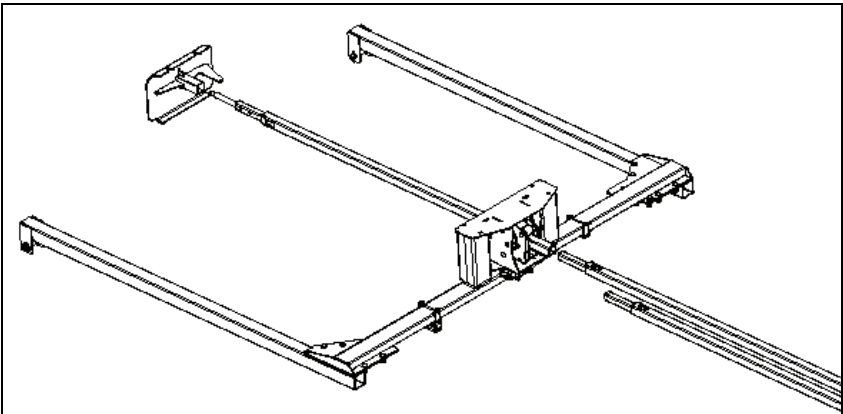

Figure 9.2 Unloading post
- 5- Take out the 2 unloading posts, located on the left side of the rear chassis. Take the unloading post with a round rod at the end and place it in the square axle of the pusher plate with the square holes facing downward. Put the ring pin back in the pusher plate. Push on the unloading post to manually move the pusher plate forward (about 1m) and add the second pole and, then move the pusher plate until it touches the bale (at the center) (Figure 9.2).